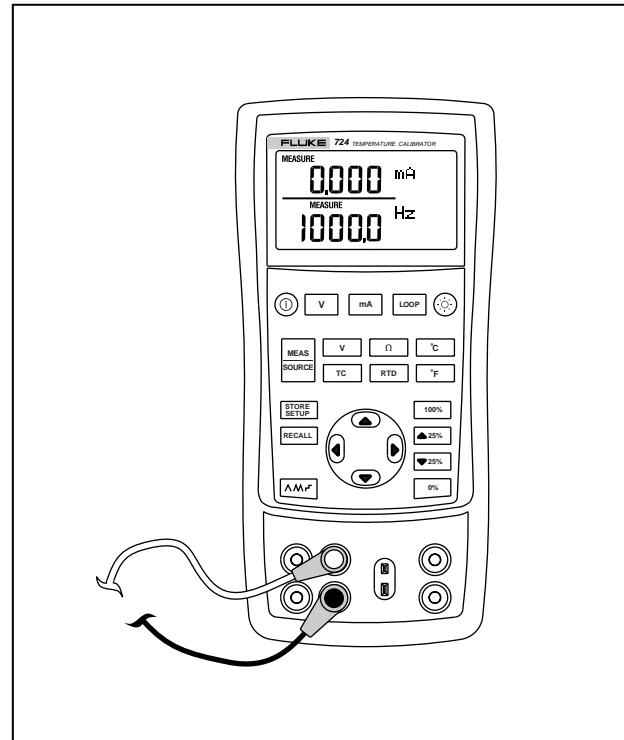

Figure 9. Measuring Electrical Parameters
1. Connect the calibrator as shown in Figure 9.